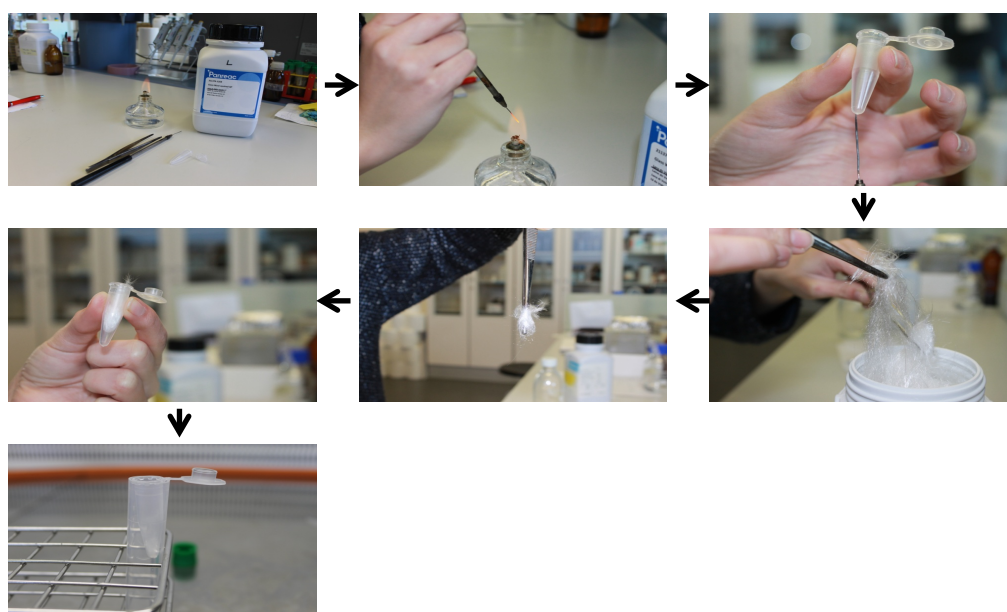

Figure 3. Set up for the glass wool in a microtube placed on a 15 ml tube
4. To harvest the spores, add 5 ml of sterile distilled water to the plate. Filter this suspension in 1.5 ml microtubes with glass wool, placed on 15 ml tubes, in order to remove traces of mycelium (Figure 3 and 4). Spores are maintained at 4 °C no more than 1 week. Finally, determine spore concentration in a Thoma cell counting chamber by pipetting 100 µl of a 1:100 dilution, using the following formula: